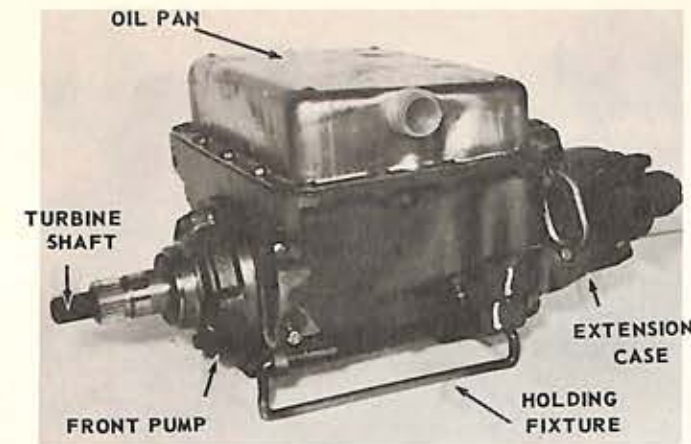

Fig. 19 TRANSMISSION MOUNTED IN HOLDING FIXTURE
1. After the transmission has been removed from the vehicle, place the assembly in the transmission holding fixture (Fig. 19).